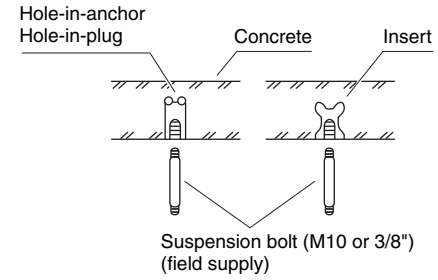

Fig. 3-120
- Insert suspension bolts as shown in Fig. 3-120 or
- (2) Screw in the suspension bolts allowing them to protrude from the ceiling as shown in Fig. 3-120. (Cut the ceiling material, if necessary.)